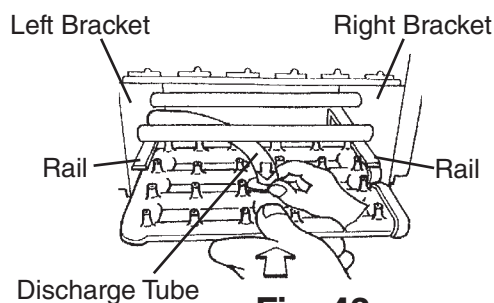

Fig. 43
12. Slide in the spray assembly along the rails on the left and right brackets. See Fig. 43. Connect the discharge tube securely to the spray assembly; a loose fitting may cause a water leak.